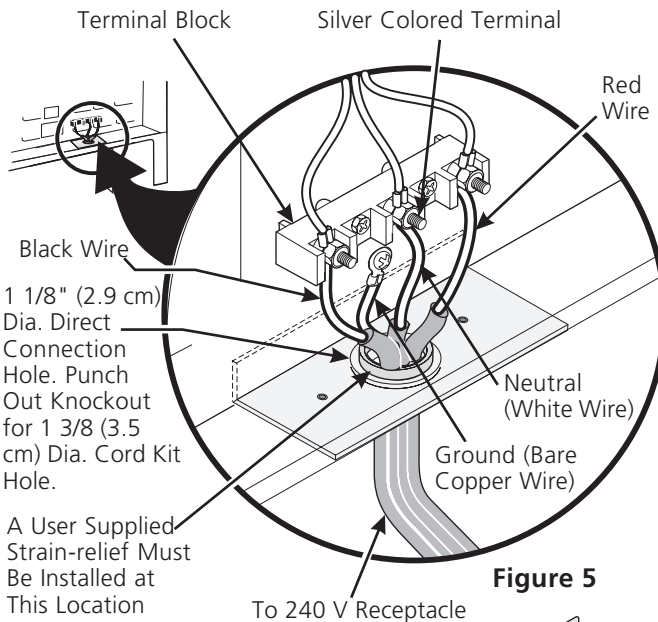

Figure 5
4. Connect the ground wire (green) of the copper power supply cord to the frame of the appliance with the ground screw, using the hole in the frame where the ground strap was removed (see Figure 5).
6. Replace the 3 nuts on the terminal block (see figure 5).
If the appliance is connected directly to the circuit breaker, fuse box or junction box, use flexible, armored or nonmetallic sheathed copper cable (with grounding wire). Supply a U.L. listed strain-relief at each end of the cable. At the appliance end, the cable goes through the Direct Connection Hole (see Figure 5) on the Cord Mounting Plate. Wire sizes (**copper wire only**) and connections must conform to the rating of the appliance.